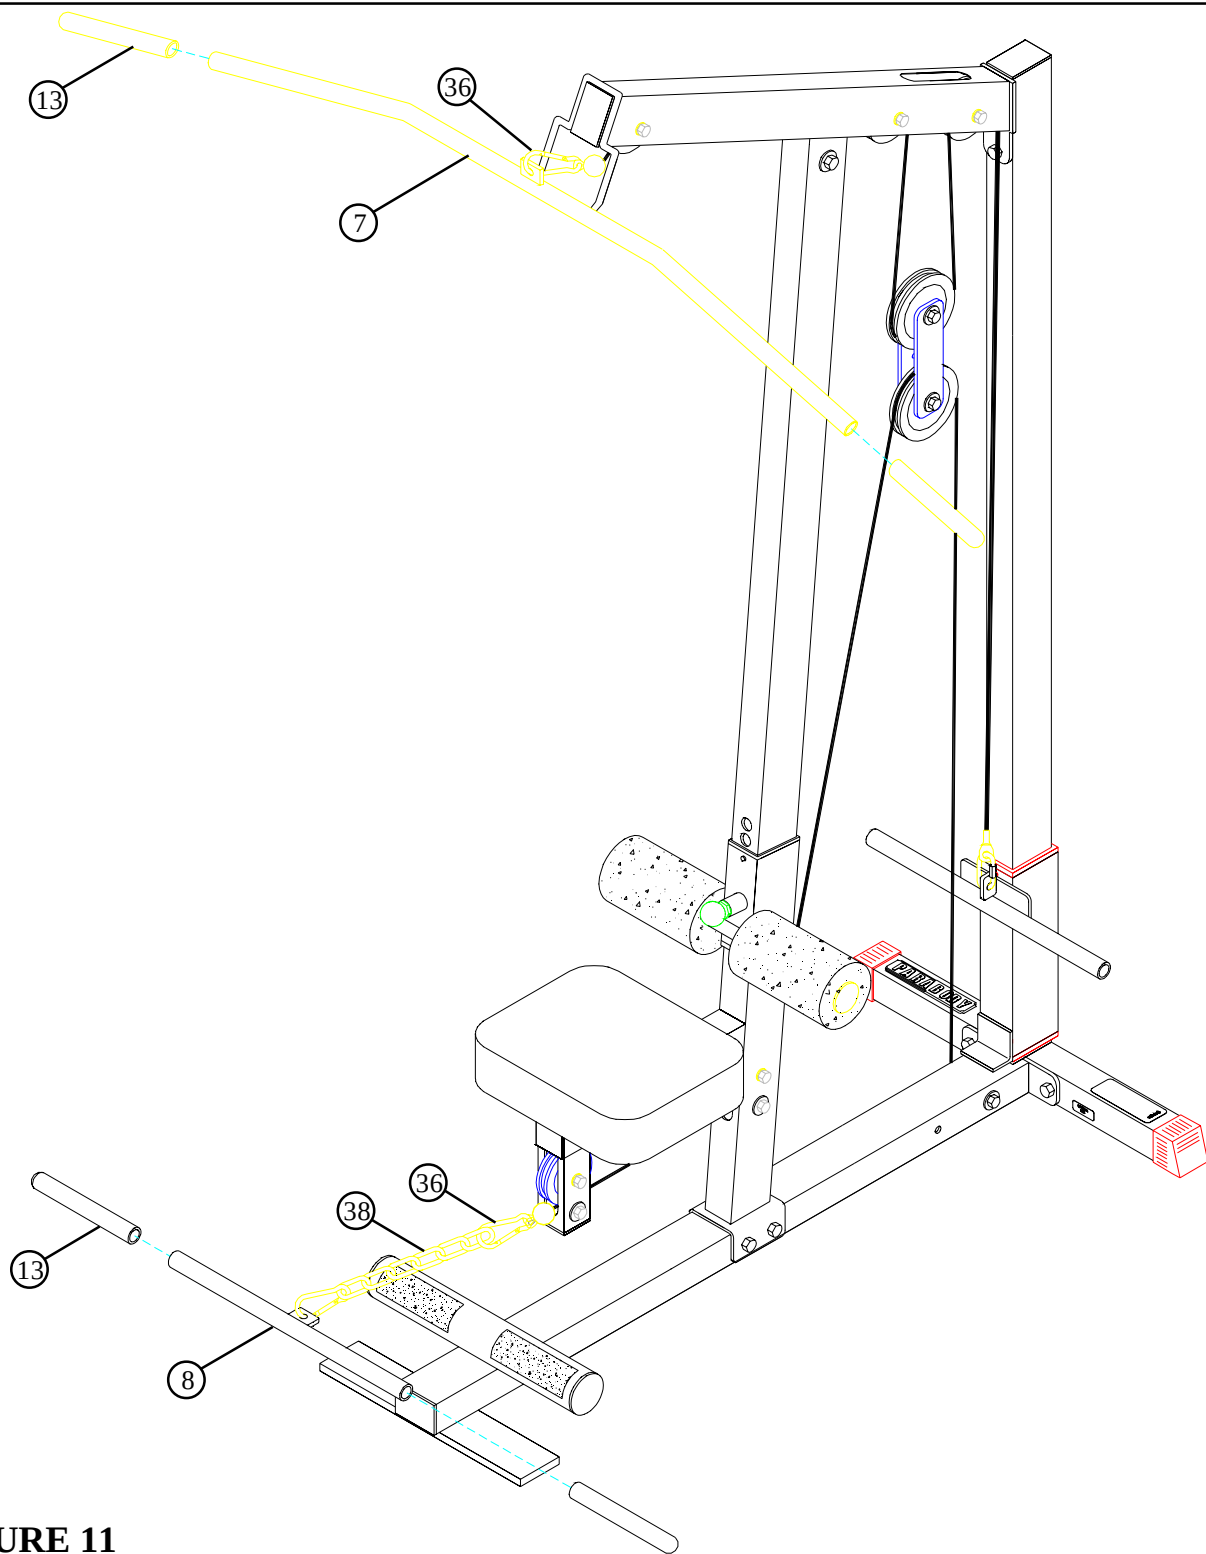

FIGURE 11
- Attach the LAT BAR (7) to the ball end of the upper CABLE (12) using one 5/16" SNAP LINK (36) as shown in FIGURE 11.
- Attach the LOW ROW BAR (8) to the ball end of the lower CABLE (12) using one 12-LINK CHAIN (38) and two 5/16" SNAP LINKS (36) as shown in FIGURE 11.
- Slide two 1 X 8" GRIPS (13) on the LOW ROW BAR (8) and two 1 X 8" GRIPS (13) on the LAT BAR as shown in FIGURE 11.